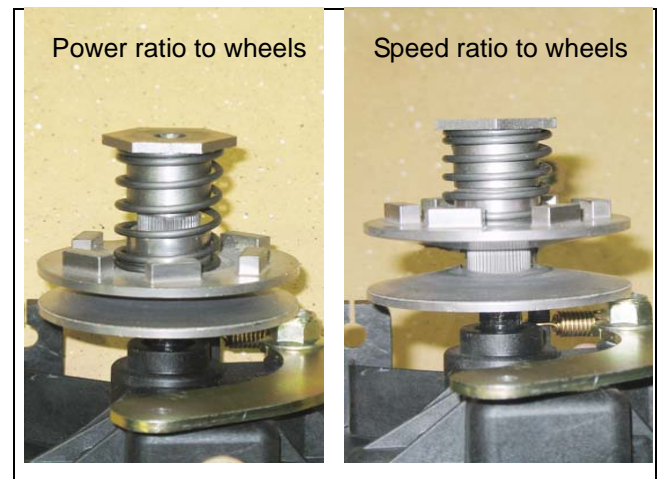

Figure 5.3
6. The sheaves on the transmission pulley are spring-loaded to react to the added belt tension. See Figure 5.3.